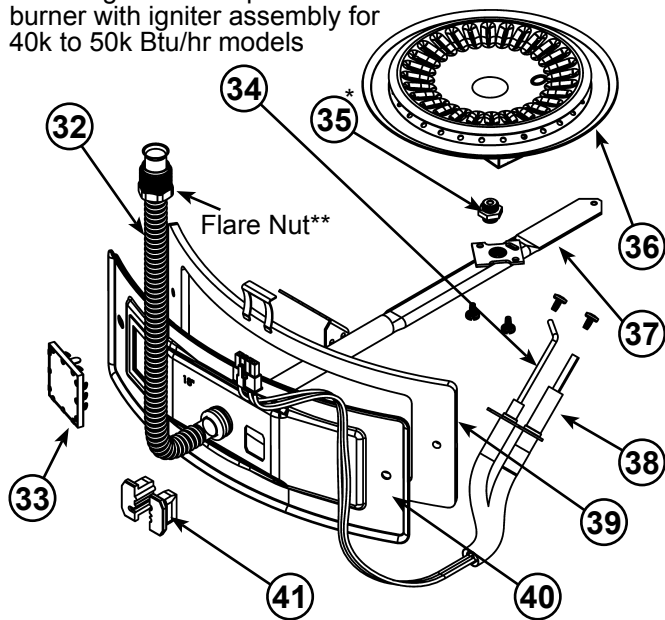
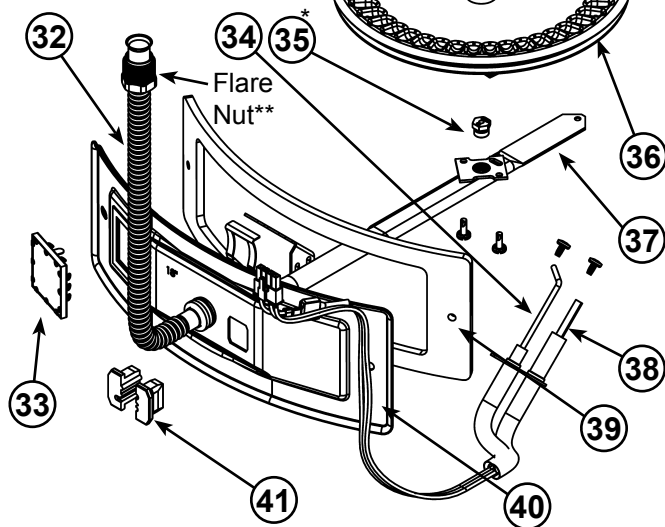

Figure 58.
Figure 59.
14. Manifold Door Assembly (behind outer door) (see Figure 58 & Figure 59)
32. Flexible Manifold Tube (see Figure 58 & Figure 59)
33. Viewport (see Figure 58 & Figure 59)
34. Flame Sensor Rod (see Figure 58 & Figure 59)
35. Gas Orifice (see Figure 58 & Figure 59)
36. Sheet Metal Burner (see Figure 58 & Figure 59)
37. Gas Manifold (see Figure 58 & Figure 59)
38. Hot-Surface Igniter (see Figure 58 & Figure 59)
39. Manifold Door Gasket (see Figure 58 & Figure 59)
40. Manifold Door (see Figure 58 & Figure 59)
41. Two Piece Grommet With Clip (Figure 58 & Figure 59)